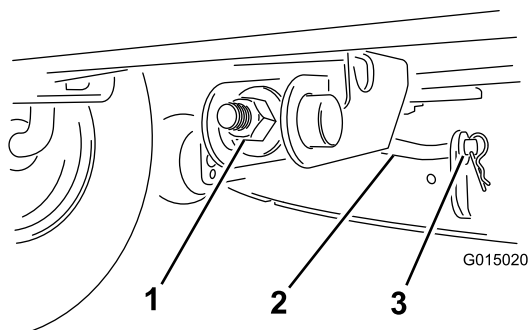

Figure 39
- Adjust the front-to-rear blade slope by rotating the adjustment nut in the front of the mower (Figure 39).